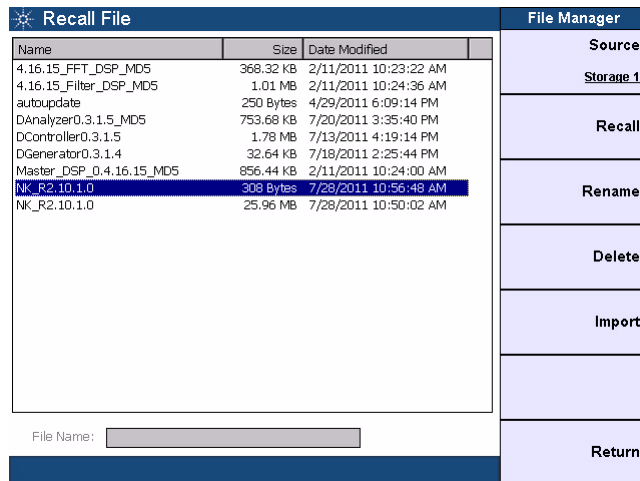

Figure 1-9 Recall file manager
- 4 Select the software or firmware file to be updated, and press **Recall** as shown in Figure 1-9. Refer to “Recall” on page 97 for more information on the recall file manager.